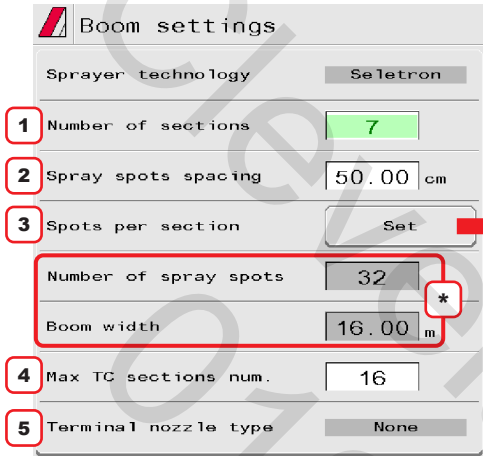

Fig. 36
* Depending on the selected settings, the total number of spraying points as well as the value of the boom width, displayed in Fig. 36, will change.